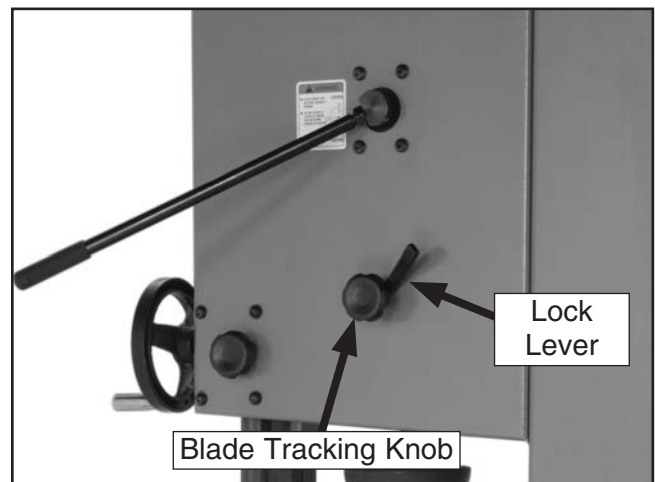

Figure 30. Blade tracking controls.
6. Loosen the lock lever (see **Figure 30**) so that the blade tracking knob can rotate.